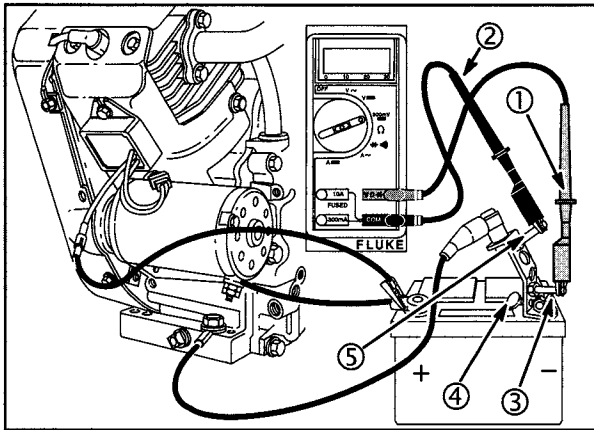

Fig. 28
The DC shunt **MUST** be installed to the **NEGATIVE (-)** terminal of the battery, **Fig. 28**. All connections must be clean and tight to obtain accurate readings.
3. Insert RED test lead (1) into $V\Omega$ receptacle in meter. Connect to RED post terminal (3) on shunt, **Fig. 28**.
4. Insert BLACK test lead (2) into **COM** receptacle in meter and connect to BLACK post terminal (5) on shunt.